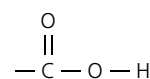

Figure 15.1
- This is displayed as shown in Figure 15.1